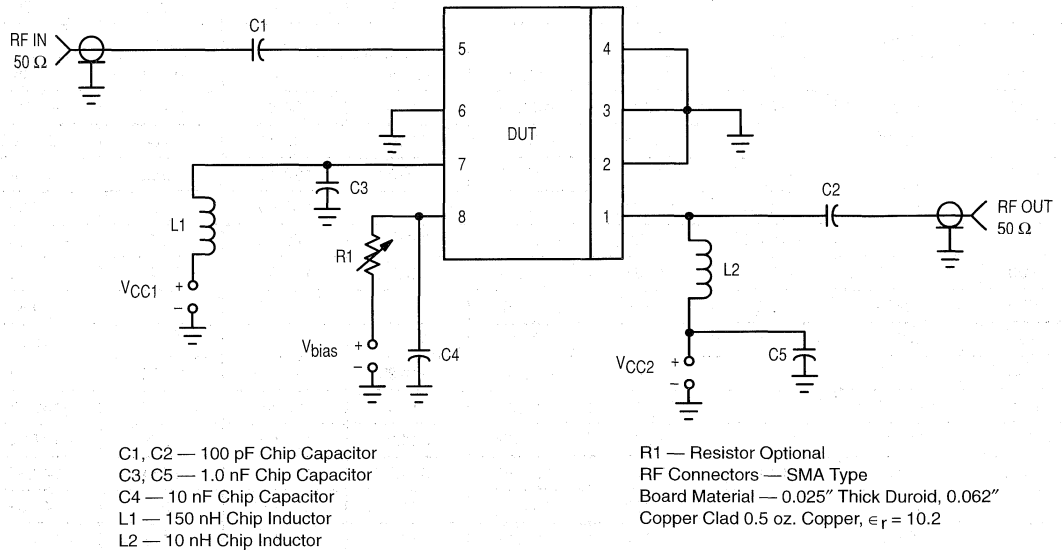

Figure 1. Typical Biasing Configuration
1. All electrical characteristics measured in test circuit schematic shown in Figure 1 below.